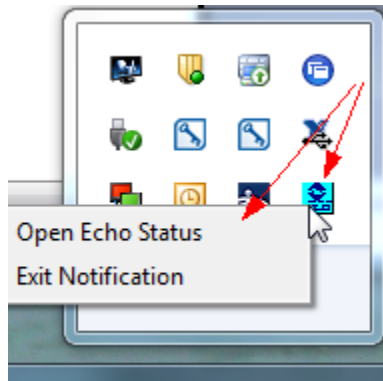
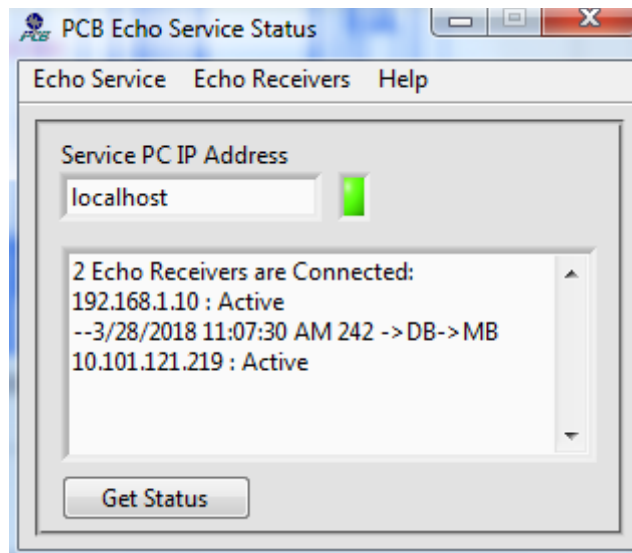

Figure 4 –PCB Echo® Status utility icon in the notification tray
Figure 5 – PCB Echo® Status Window
- Right click the PCB icon (PCB Echo Service utility) in the notification tray (typically on the bottom right of the screen) as shown in Figure 4. This will show an option to 'Open Echo Status'. Selecting this opens the window shown in Figure 5. Clicking the **Get Status** button will update the status to show the Echo[®] receivers the service is connected to and the last transmission each has received.
The last transmission indication shows the date and time that the transmission was received and may also contain “->DB” and/or “->MB”. DB indicates the transmission was from a sensor registered for that receiver and was stored in the SQL database. MB indicates the Modbus interface is enabled and it was entered in the Modbus response file. An example of a status response is shown in Figure 5 above.